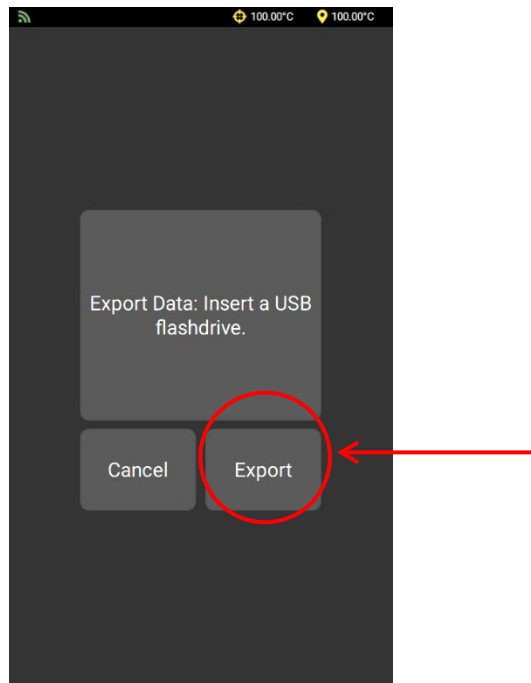

Figure 62: Export to USB Drive
4. Once the drive is inserted, select **Export** and your data will be transferred from the instrument to your USB drive in CSV format. See Figure 62.